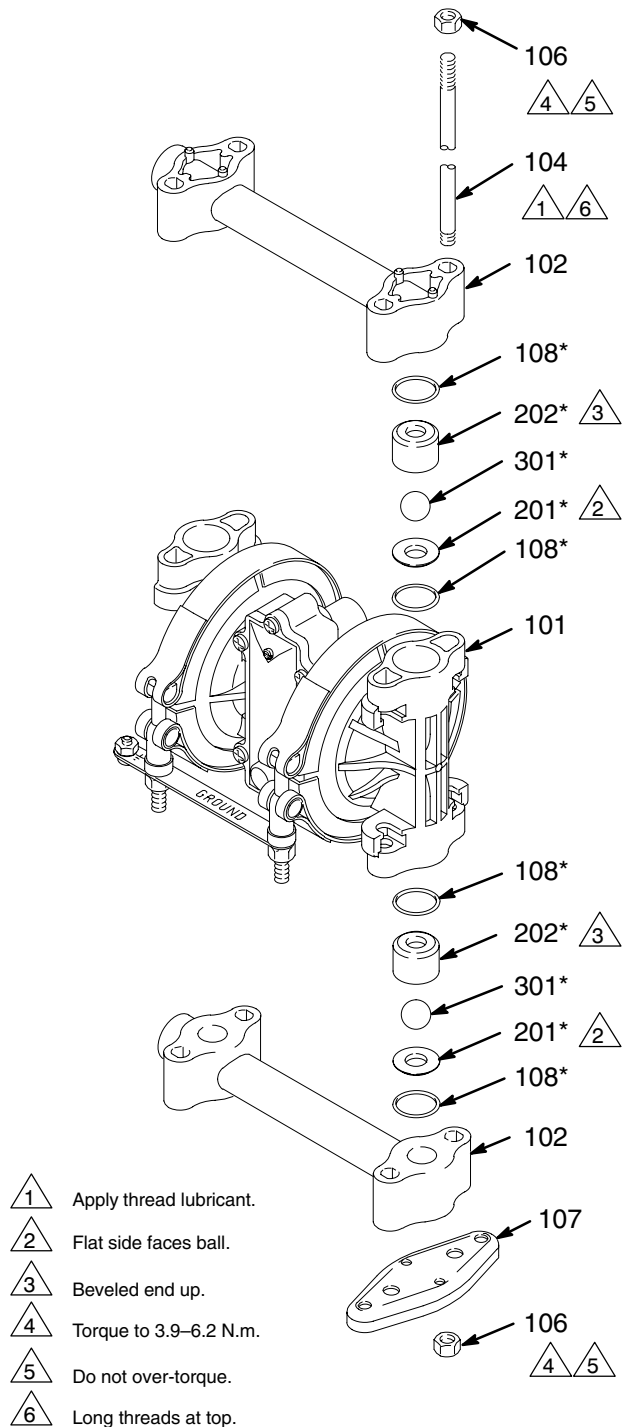

Fig. 14
2. Using a 1/2" socket wrench, remove the nuts (106) holding the top manifold (102) to the covers (101). Lift the manifold off the pump. See Fig. 14.
3. Remove the outer o-ring (108), ball guide (202), ball (301), seat (201), and inner o-ring (108) from each of the covers.
4. Turn the pump over. Pull the tie rods (104) out of the pump, leaving the four nuts (106) on the rods. Remove the feet (107) and lower manifold (102).
5. Remove the outer o-ring (108), seat (201), ball (301), ball guide (202), and inner o-ring (108) from each of the covers (101).
7. Reassemble the intake ball checks in the bottom of the pump, following all notes in Fig. 14. Be sure the ball checks are assembled **exactly** as shown.
8. Set the lower manifold (102) and feet (107) in place on the bottom of the pump.
9. Insert the long threads of each rod (104) through the feet and lower manifold. Push the rods up through the covers (101) until the nut (106) on the end of the rods bottoms on the foot. Make sure the rods are pushed all the way through. Turn the pump upright (the rods are a slight interference fit and will hold the pump parts securely in place).
10. Reassemble the outlet ball checks in the top of the pump, following all notes in Fig. 14. Be sure the ball checks are assembled **exactly** as shown. To avoid pump leakage, run your finger over the o-rings (108) and ensure that they are seated properly.
11. Install the top manifold (102) and four nuts (106). Torque to 3.9–6.2 N.m. **Do not over-torque.**